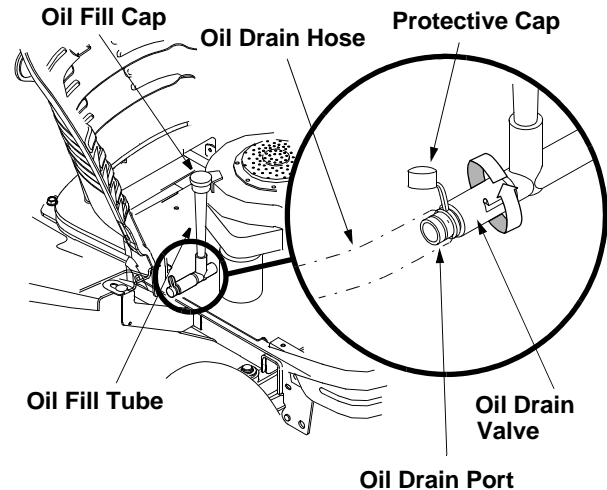

Figure 12
1. Unscrew oil fill cap and remove dipstick from the oil fill tube. See Figure 12.
2. Pop open the protective cap on the end of the oil drain valve to expose the oil drain port. See Figure 12.
4. Push the oil drain valve in slightly, then rotate counterclockwise and pull outward to begin draining oil. See Figure 12.